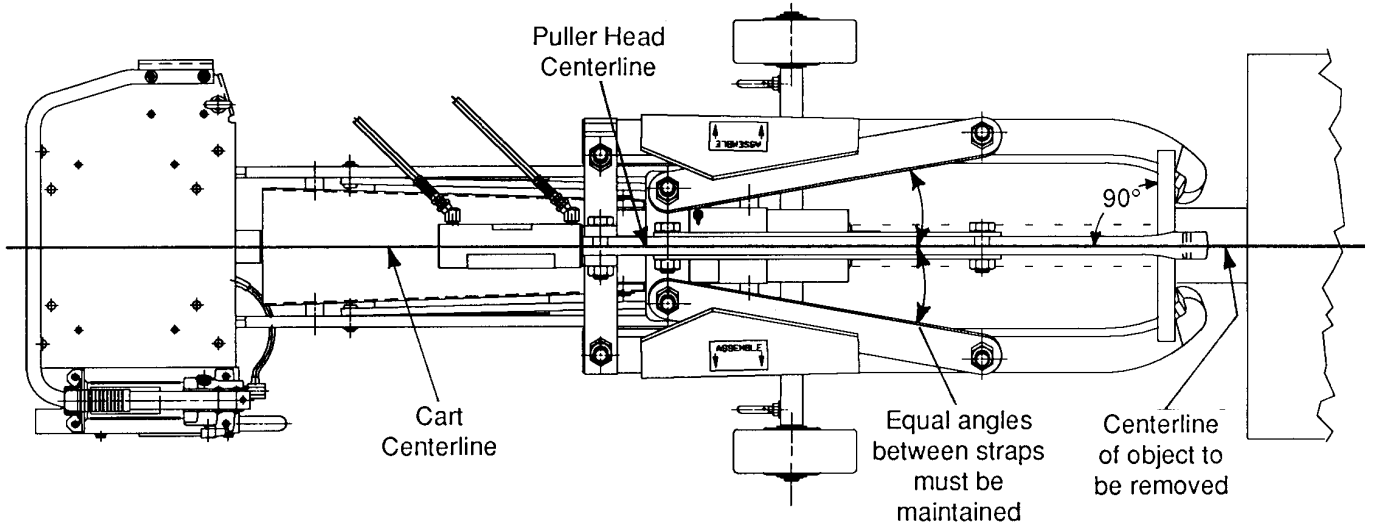

FIGURE 2
Refer to Figure 2.
1. Adjust the horizontal by positioning the puller cart as shown in Figure 2. The centerline of the object being removed must be at approximately a 90° angle to the pulling surface engaged by the jaws and on the same centerline as the puller cart and the puller head.